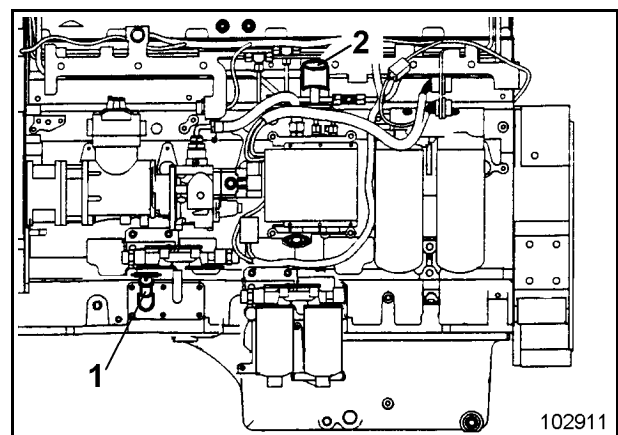

Fig. 3-13:
- Draw out oil dipstick (1, Fig. 3-13:).